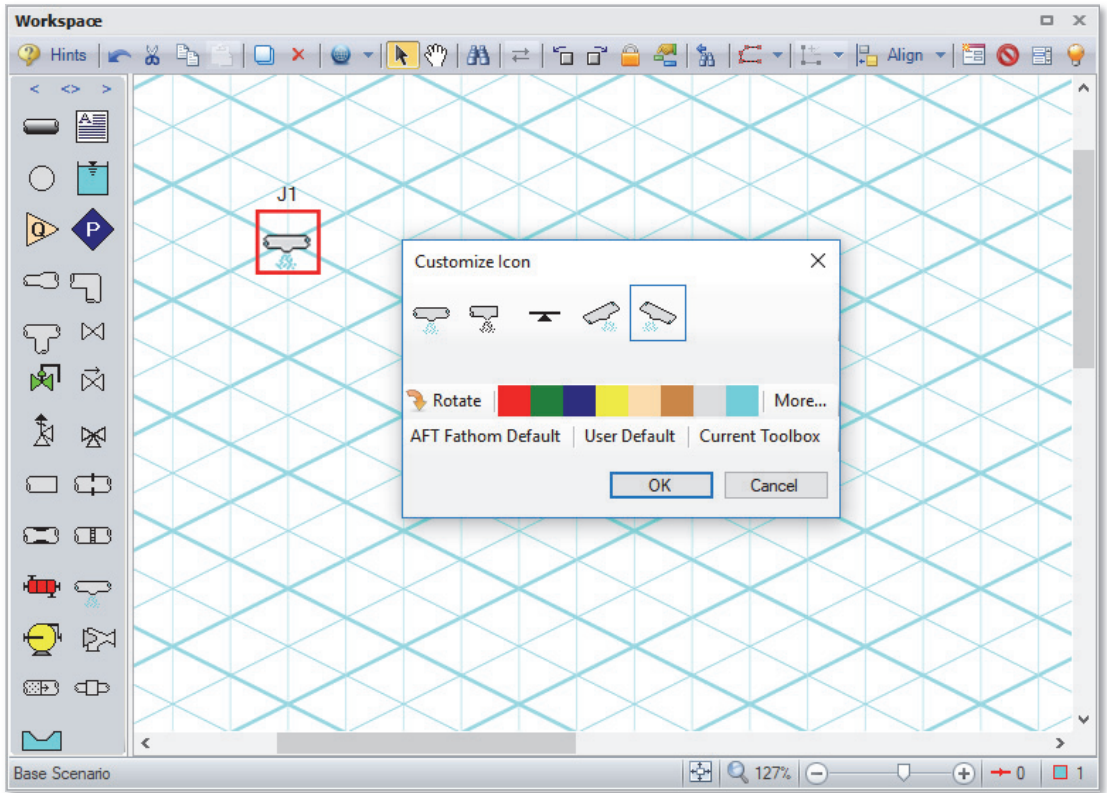

Figure 3.10 Right click on the junction to open the Customize Icon window and select the preferred icon and rotation
4. Right click on J1 and select Customize Icon. Select the icon shown in Figure 3.10.